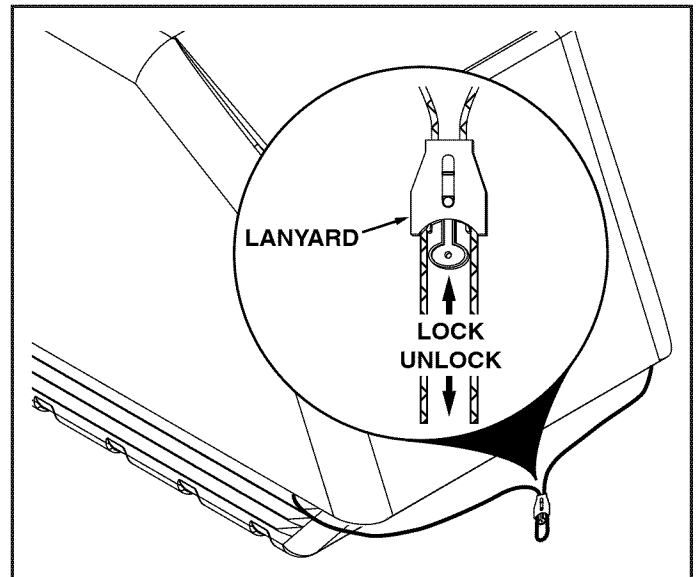

FIGURE 24
- Allow the rope to hang loosely behind the rear of the cart. Use the lanyard to tighten the rope until it firmly secures the cart cover to the cart. See figure 24.
- Ensure lanyard is locked to keep rope in place. See figure 24.